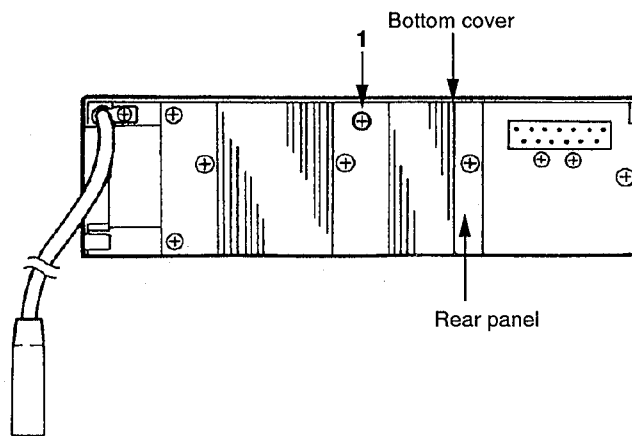

Fig. 6 - 1
■ Removal of nose piece assembly (Fig. 6 - 2)